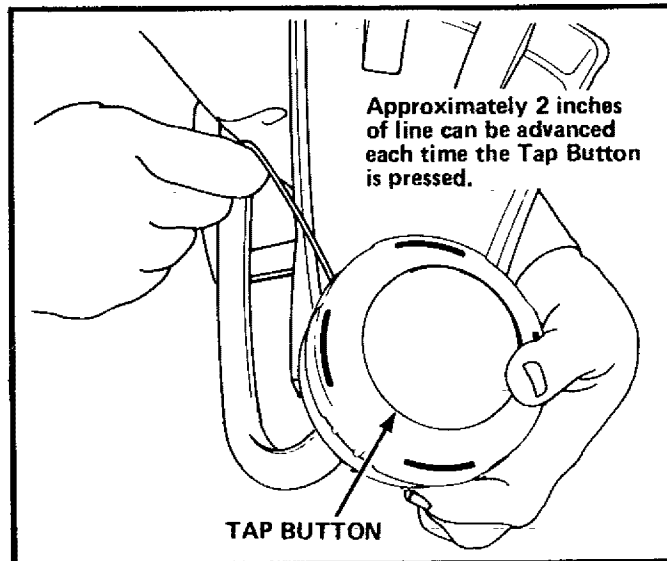

Figure 24
- h. Pull on the nylon line to change the spool from the locked position to the operating position. Figure 24.
NOTE: Approximately 2 inches of line can be advanced each time the tap button is pressed. Figure 24.